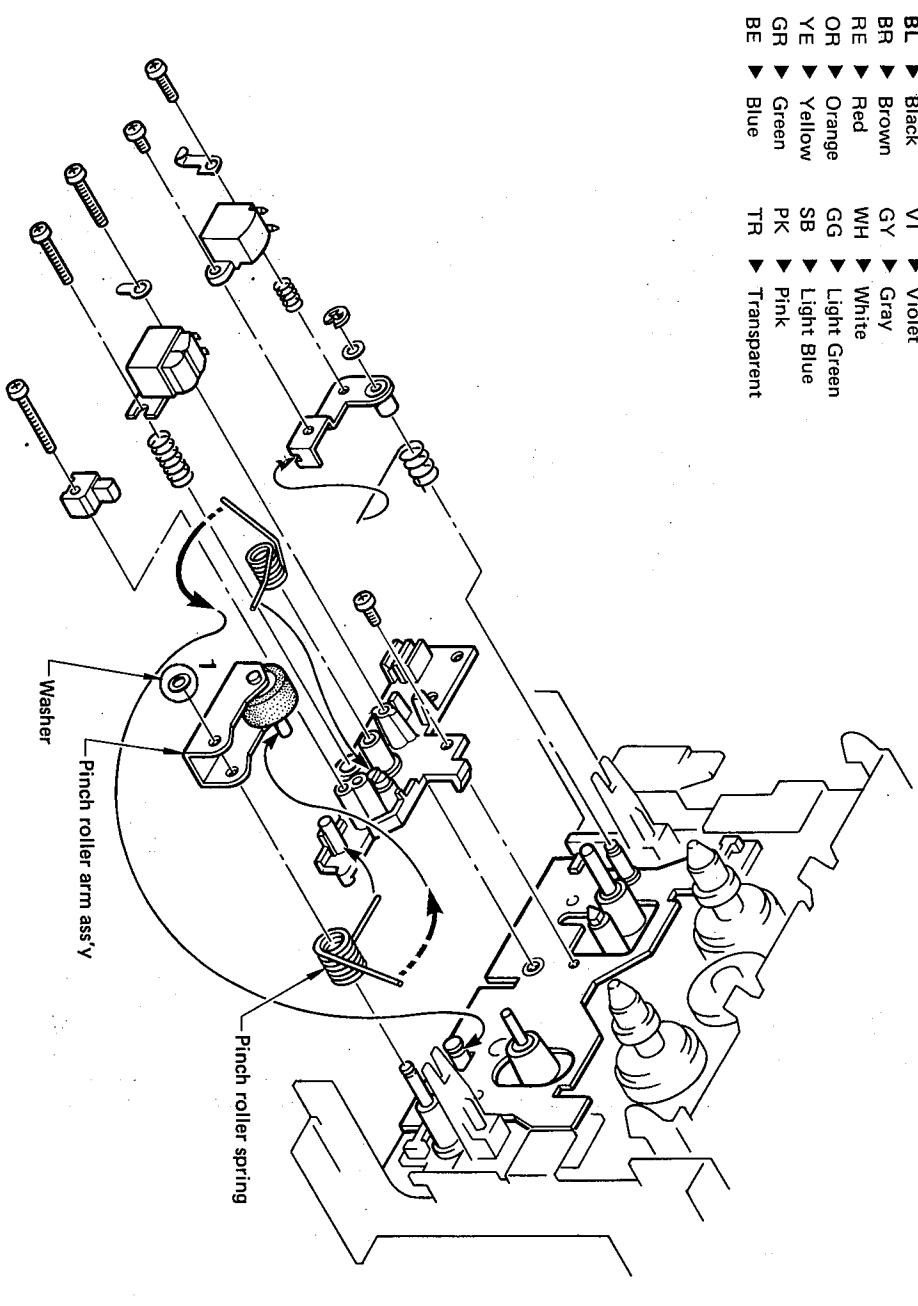

Fig. 10
- b. Remove the washer ① in fig. 10 and then replace the pinch roller arm ass'y.
* Refer to fig. 10 as to the position of pinch roller spring.